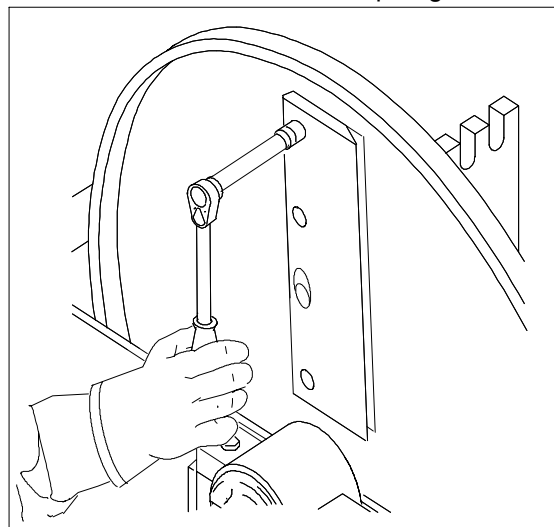

Fig. 19. Removing the knife fastening bolts.
2. Remove the knife fastening bolts (M10). Turn the wrench in such a way that your hands would not hit the knife if the wrench should slip. Fig. 19.